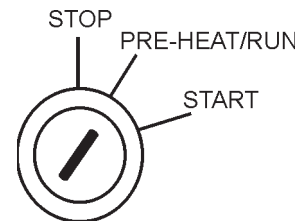
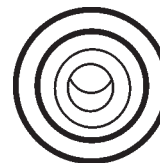
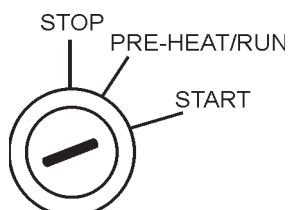

Figure 42. Ignition Switch (Pre-Heat/Run Position)
Figure 43. Pre-Heat Indicator Lamp
Figure 44. Ignition Switch (Start Position)
5. Preheat the engine **glow plugs** by turning the ignition key (Figure 42) to the **PRE-HEAT/RUN** position. When the preheat lamp (Figure 43) turns off, proceed to step 6.
6. Turn the ignition key to the **START** position (Figure 44). Once the engine starts, release the ignition key and allow it to return to the **PRE-HEAT/RUN** position (Figure 42).